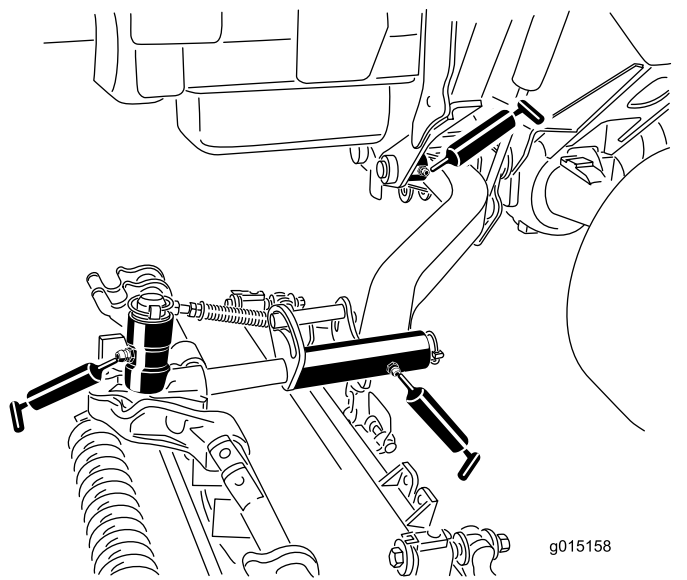

Figure 73
- Lift arm pivot bushings (1 per cutting unit) (Figure 73)
- Cutting unit carrier frame (2 per cutting unit) (Figure 73)
- Cutting unit lift arm pivot (1 per cutting unit) (Figure 73)